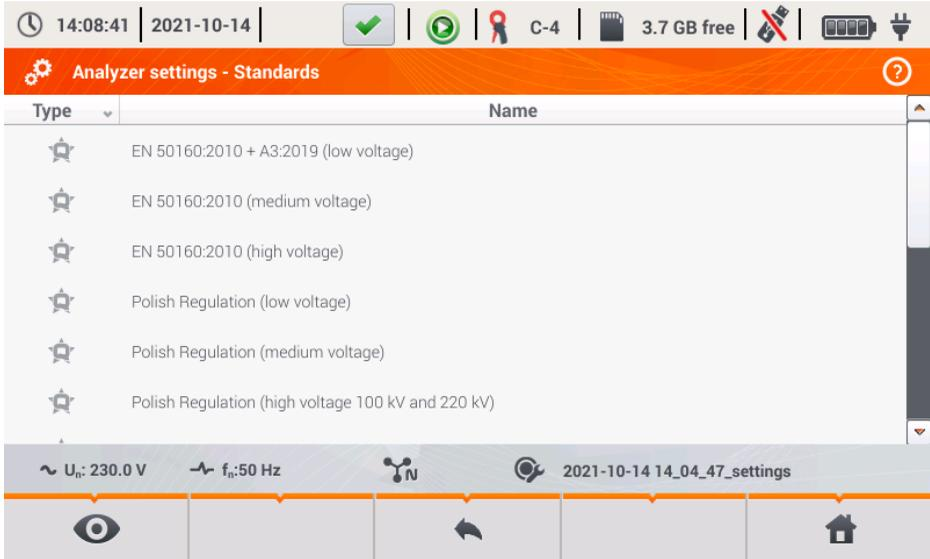

Fig. 18. Analyzer settings - Standards manager.
- **STANDARDS** – after selecting this option, a window is displayed, as shown in Fig. 18. This window shows a list of standards profiles stored in the internal memory of the analyzer that are used to generate the compliance reports.